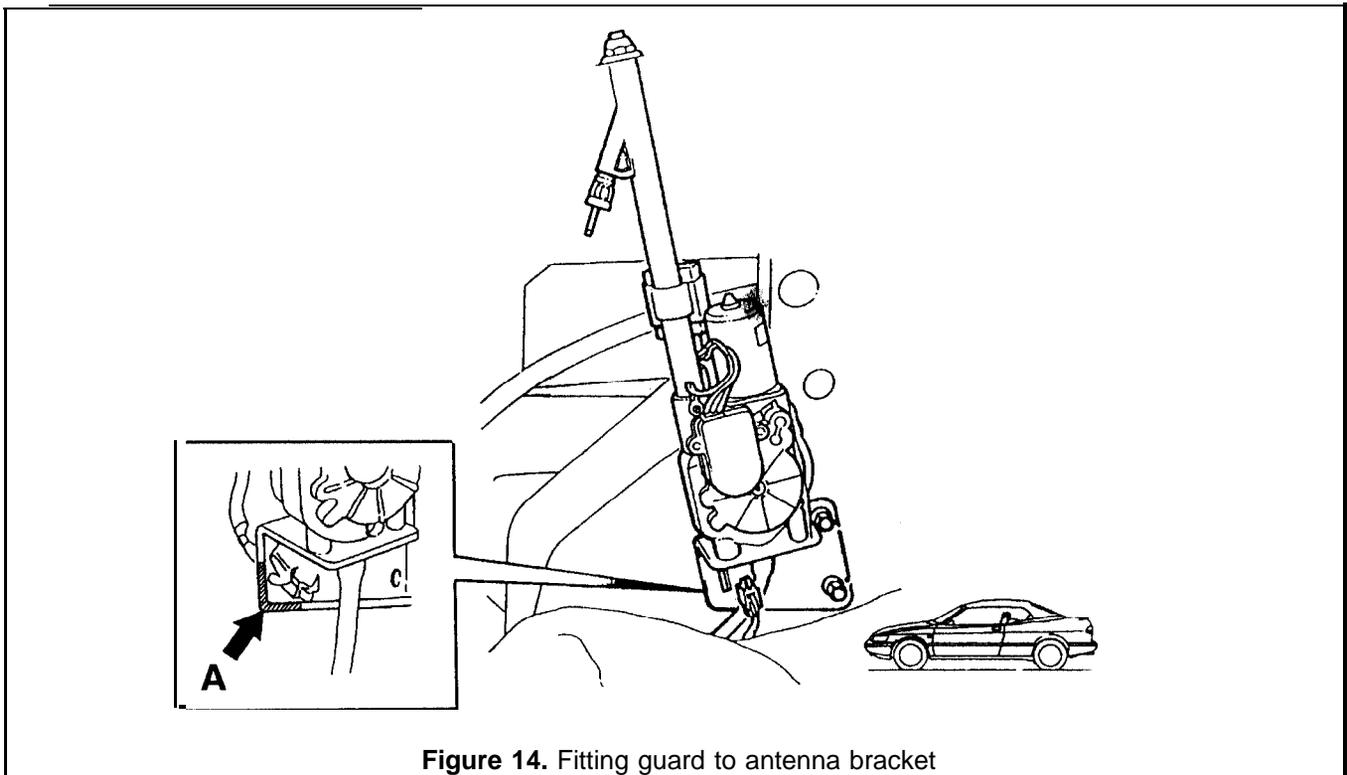

Figure 14. Fitting guard to antenna bracket
6. Press the chafing guard in place on the antenna bracket as shown in Figure 14.A above.